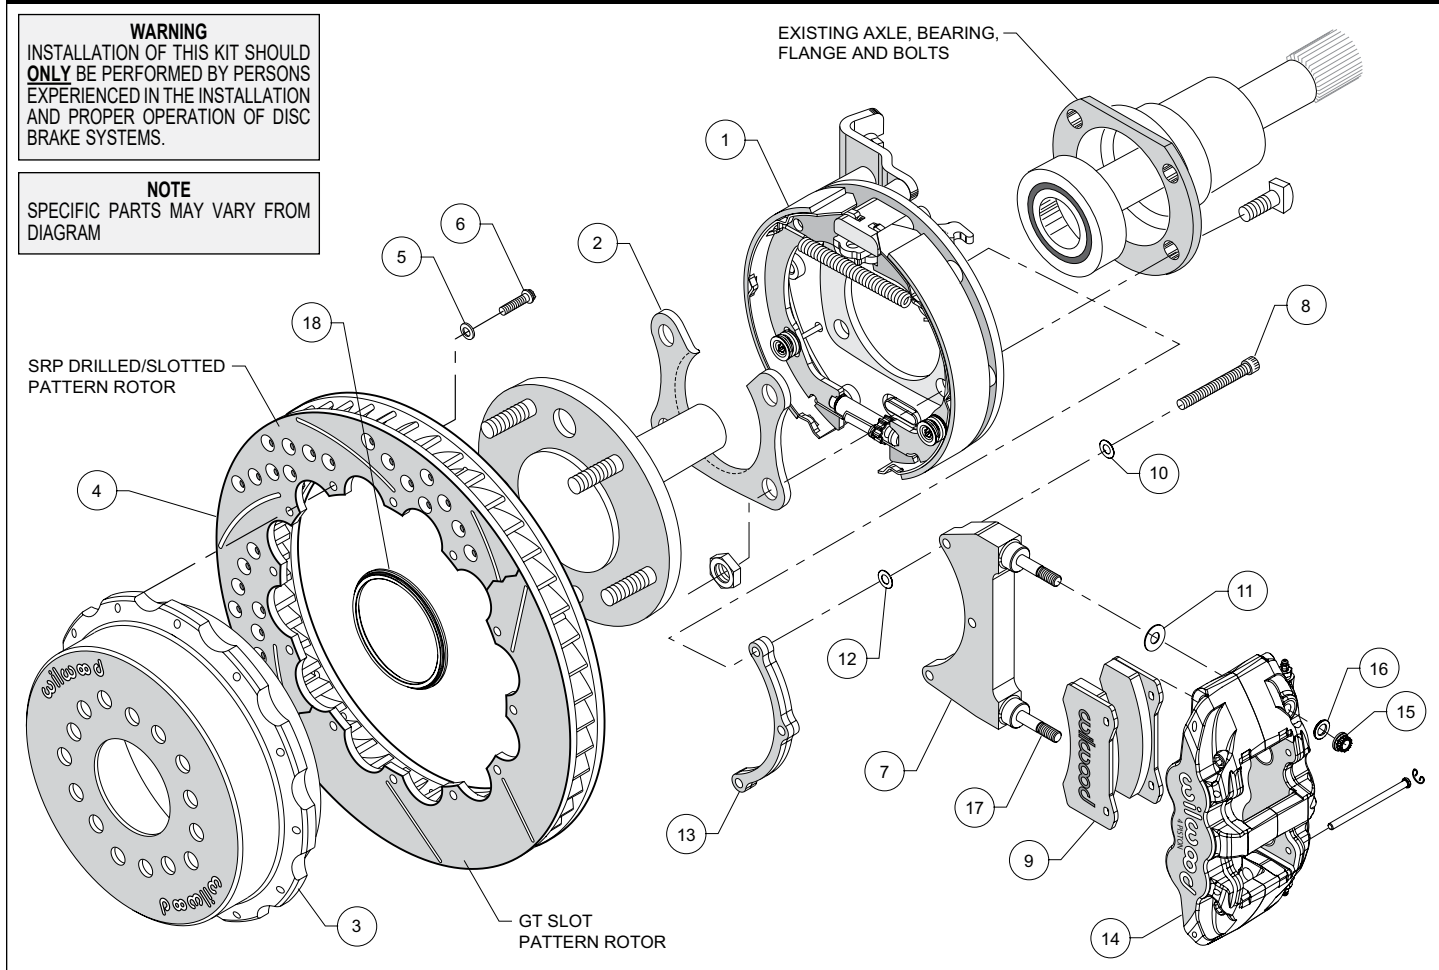

Figure 1. Typical Installation Configuration
- Orient the bracket assembly (1) as shown in Figure 1, and slide it onto the axle flange. Ensure that the bracket assembly backing plate fits flush against the housing flange. Insert the axle shaft into the axle housing.
- Install the bearing retainer (2) with the opening pointing upward and the lip facing inward (toward the bearing), as shown in Figures 1 and 4. Secure using the Original Equipment Manufacturer
(OEM) bolts and nuts, Figure 1. Apply red *Loctite*® 271 to the OEM bolt threads and torque to OEM specifications
- **NOTE:** Please reference the caution statement at the beginning of the assembly instructions. The caliper mounting bracket assembly (7) should be installed first with clean, dry threads on the mounting bolts (8). Install the bracket from the rear side of the bracket kit assembly (1) by sliding bolt (8) through flat washer (10), bracket (7), shim washer (12) and finally through the spacer (13), see Figure 1. **NOTE:** End of bolt should not exceed inside face of insert. The bracket must tighten squarely against the back side of the bracket kit assembly (1). Inspect for interference from casting irregularities, machining ridges, burrs, etc. Use one thin shim (12) between the bracket (7) and spacer (13) during initial trial fitting.
- Lubricate caliper mounting studs and nuts with lightweight oil. Install one shim (11) over each pre-installed stud (17) on the radial mount bracket (7). Slide the caliper (14) in place over the studs and rotor, then install the washer (16) and lock nut (15) to hold the caliper in place. The caliper bleed screws should be pointing up. Snug the lock nuts (15) and check that the rotor (4) is centered in the caliper (14). Add or subtract .015" shims (12) as necessary between the caliper mounting bracket (7) and the spacer (13) to center the caliper (14).
- Remove the two pad retaining pins from the caliper (14) by carefully popping out the pin retaining clips and sliding out the pins. Insert the brake pads (9) into the caliper from the bottom, Figure 1. With the friction material facing the rotor, secure the brake pads in place with the pad retaining pins and clips. Reinstall the caliper onto the caliper mounting bracket and temporarily tighten the lock nuts. Check that the top of the brake pad is flush with the outside diameter of the rotor. If not, adjust by adding or subtracting shims (11) between the caliper and the bracket.
- Adjust the parking brake shoes outward (using a drum shoe adjustment tool available at your local auto parts store) while spinning the hat (3) until a slight drag is felt against the hat/drum. Remove the lug nuts that were holding the hat/rotor in place. Install the wheel and lug nuts. Check to see that the wheel rotates freely without interference.
- Once all clearances have been checked, remove the wheel, caliper, hat/rotor from the bracket kit assembly (1). Secure the